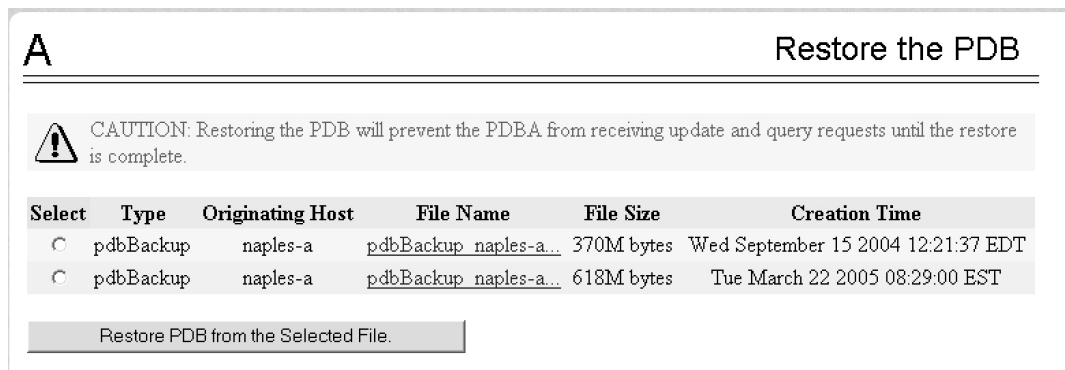

Figure 23: Restoring the PDB
6. Select **PDBA>Maintenance>Backup>Restore the PDB**. The screen shown in Figure 23: Restoring the PDB displays: